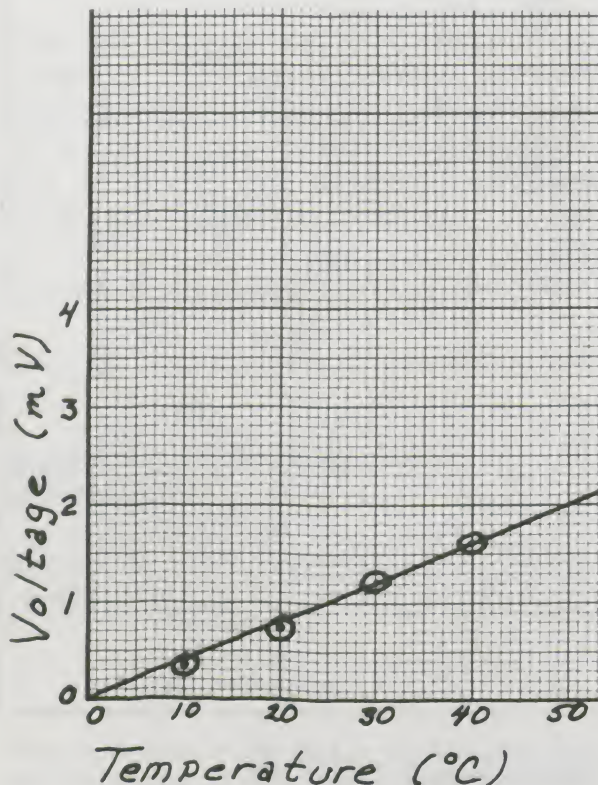

Figure 17.
2. Plot the data from the calibration table for temperatures between 0°C and 200°C, putting in a point every 10°C, as shown in Figure 17.